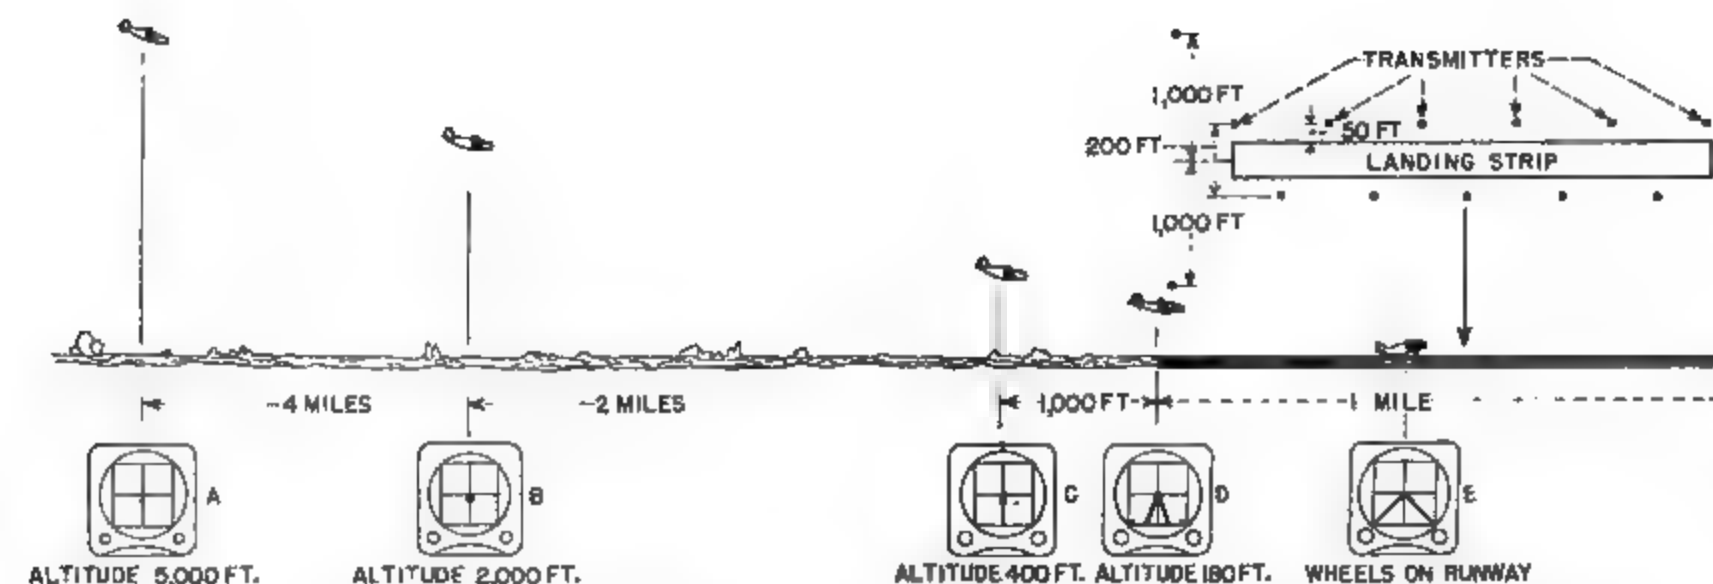

Fig. 1. Transmitters located about landing strip form patterns on pilot's indicator similar to patterns formed by ground lights.
To initially start retraction of the gear, the main cylinder (A)—shown in Fig. 1—must apply extreme load to overcome over-center position of linkage on main shock strut (B). To alleviate this difficulty, downlock cylinder (C) is provided with auxiliary linkage to automatically break strut (B) simultaneously with its (C's) unlatching motion. Main cylinder (A) is thus able
Fig. 1. Main landing gear installation of Grumman Mallard: (A) main hydraulic cylinder, (B) strut, (C) downlock cylinder, and (D) dashpot bumper. Downlock cylinder aids main cylinder at point
Use of the system for making instrument landings is shown in Fig. 1, where an aircraft is depicted making an approach and landing on a field equipped with the system. Shown in conjunction are the indications the pilot will see during the procedure, in any type of weather.